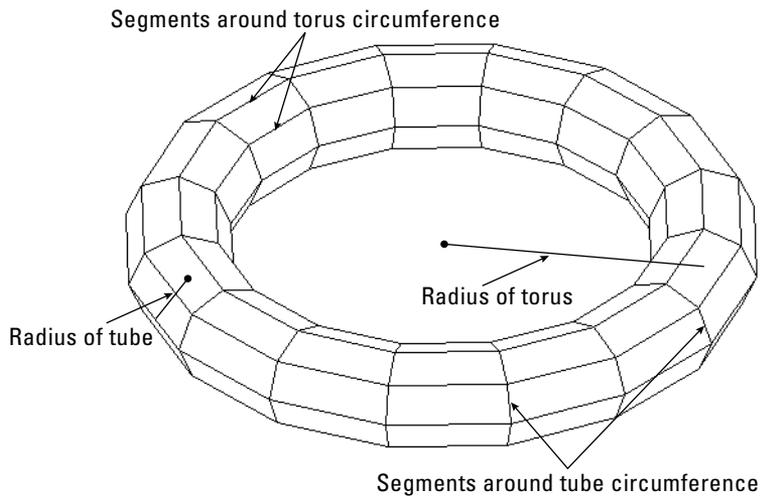

Figure 23-20: A torus.
A *torus* is a 3D donut, as shown in Figure 23-20.
3. At the Specify radius of torus or [Diameter]: prompt, specify the radius of the torus, as shown in Figure 23-20 or use the Diameter option to define the diameter.
4. At the Specify radius of tube or [Diameter]: prompt, specify the radius of the tube, as shown in Figure 23-20, or use the Diameter option to define the diameter.
5. At the Enter number of segments around tube circumference <16>: prompt, specify the number of segments around the tube, as shown in Figure 23-20.
6. At the Enter number of segments around torus circumference <16>: prompt, specify the number of segments around the torus, as shown in Figure 23-20.